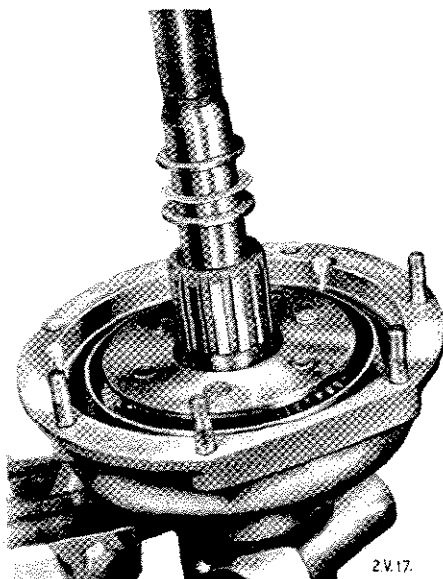
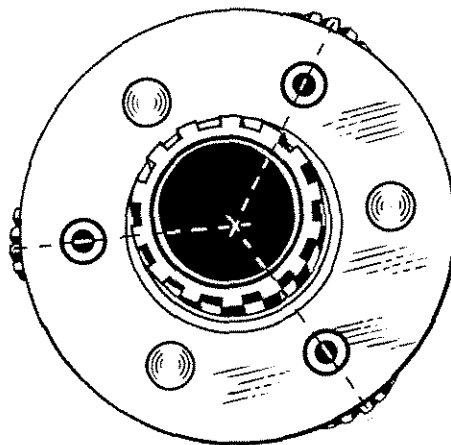
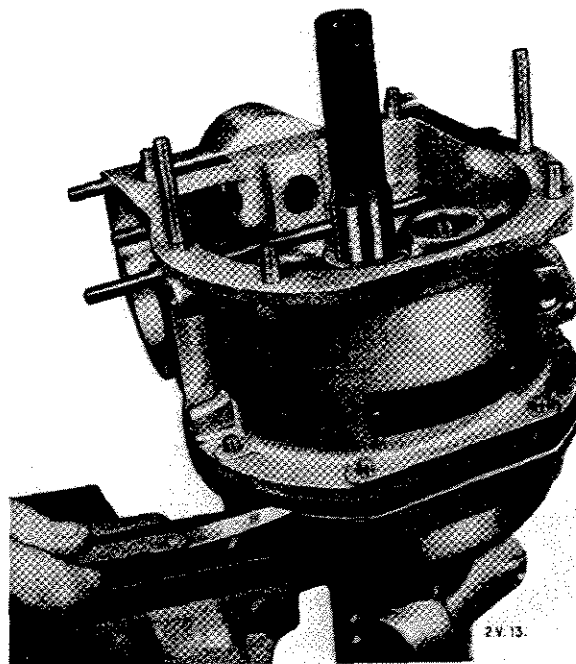

Fig. 18. Fitting sun wheel thrust washers
Fig. 19. Showing the position of markings on the planet wheels when assembled to the sun wheel
Fig. 20. Measuring sun wheel end float
Holding the rear housing (39) in a vice as shown in Fig. 18, insert the dummy mainshaft, tool No. L.185A, through the roller clutch and temporarily assemble the following items in the order given:
- thrust washer (25).
- planet carrier (26) and sun wheel (24), placing the marked teeth of the planets radially outwards as shown in Fig. 19.
- thrust washers (18) and (17) plus an additional washer of known thickness.
- brake ring (83).
- front housing assembly (67).
Measure the gap between the flanges of the brake ring (83) and rear casing (39) as shown on Fig. 20.